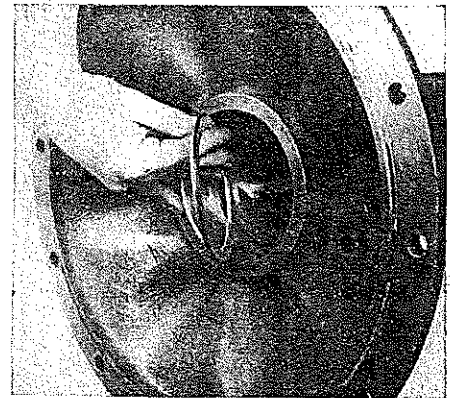

Fig. 176 Installing differential bearing spacer
2. Install differential bearing spacers, Fig. 176, in the original positions if new bearing cups are installed. Spacers must be installed with the chamfered edge toward the machined surfaces in the housing.